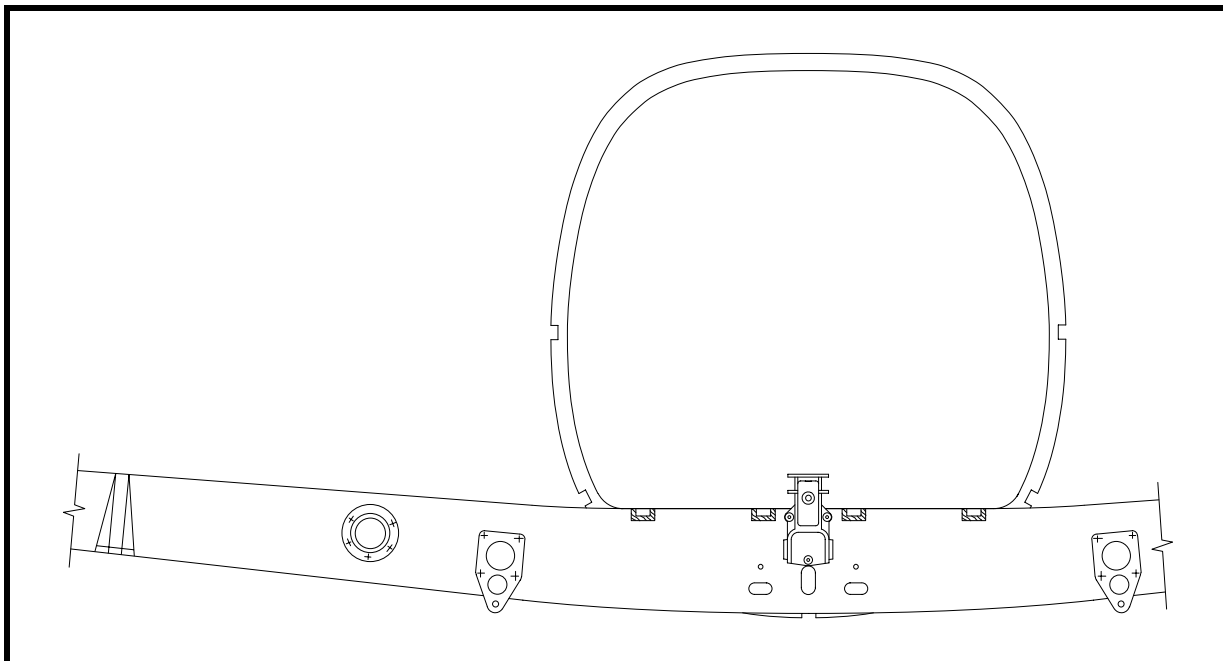

Figure 11
- ❑ For “open air” wheel well installation—install the four saddle gussets for the 30x15 seat track supports on the aft face of the main wing spar. See Figure 11. The locations for the seat track supports are shown at fuselage frame No. 5 on Drawing No. 310, and these same dimensions are used for the aft face of the main wing spar. The exact dimensions for these saddle gussets are not shown—make them 60x30 from solid spruce or 6mm thick plywood and glue several pieces of plywood together to get the desired thickness. Drawing No. 102 also shows a good view of these gussets.